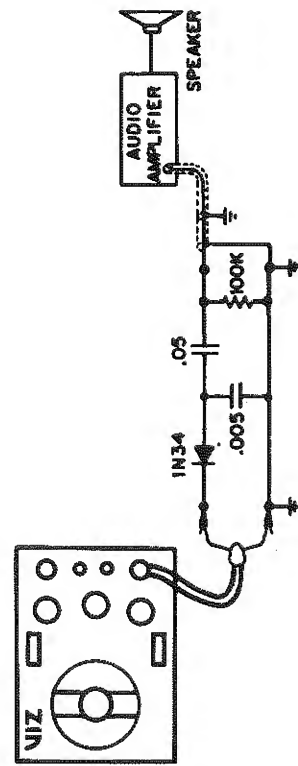

Figure 1. Using AF amplifier to crystal calibrate the WR-50C.
**Example 1:** Connect the "RF OUT" cable of the WR-50C to a diode circuit as shown in Figure 1. Connect the diode circuit to an audio amplifier and speaker. The amplifier circuit of a radio receiver having two stages of audio amplification can be used for this purpose. If a receiver is used, connect the diode circuit to the volume control, using shielded wire.